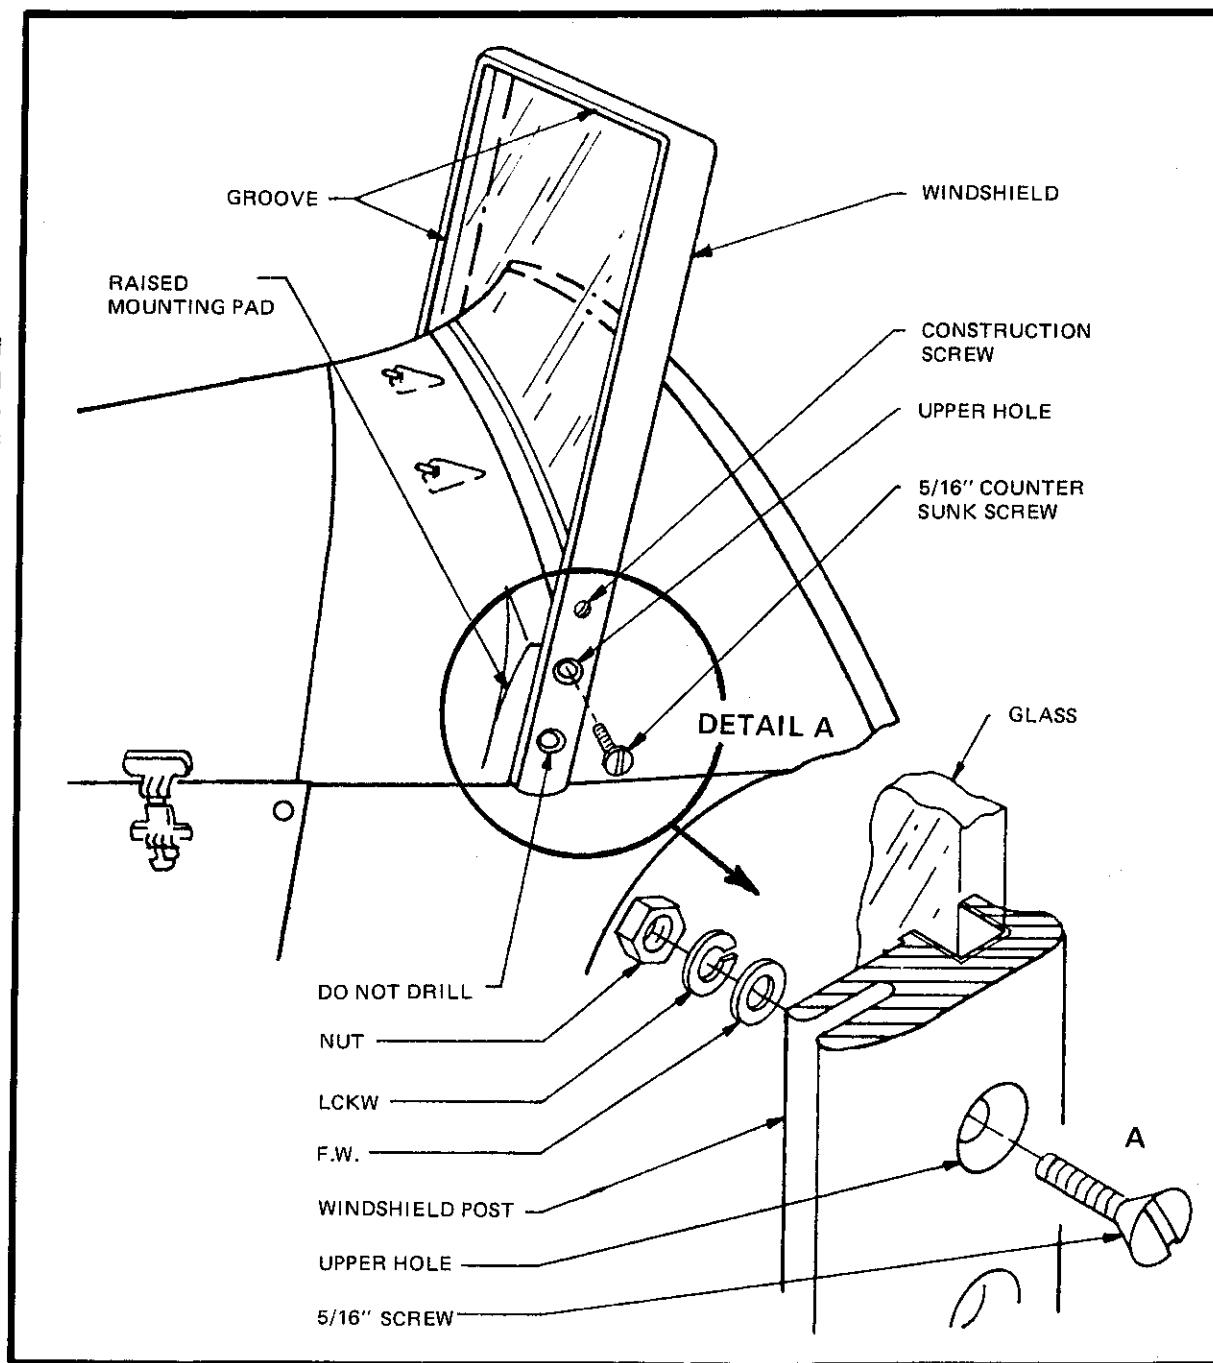

Figure 62
WINDSHIELD (Refer to Figure 62)
- ☐ Slide windshield over body, centering each side post on the raised mounting pads on the body sides. (Loosen the construction screw on each side of the frame if necessary.) Angle the windshield back so that the angle of the frame matches that of the forward edge of the mounting pad. (Figure 62) The groove in the edge of the windshield must face forward to allow installation of the convertible top.